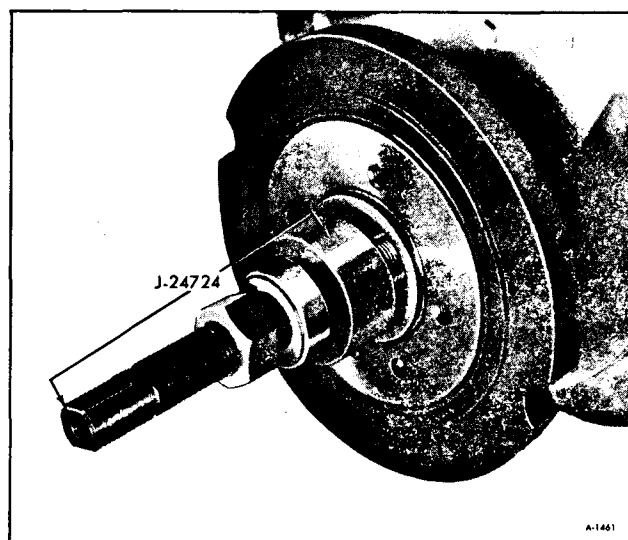

Figure 49—Installing Harmonic Balancer
2. Install harmonic balancer on crankshaft (Figure 49). Use tool J-24724.